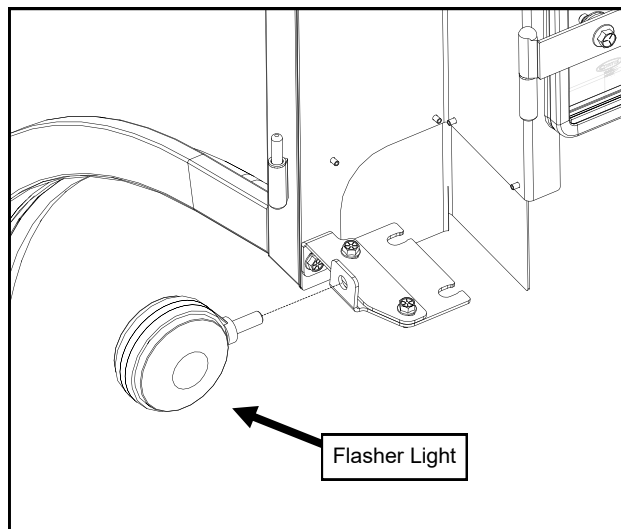

Fig. 21.1 (Relocated Rear Flashers)
- 21.1 Mount the left flasher to the new location on the rear bracket. See Figure 21.1.